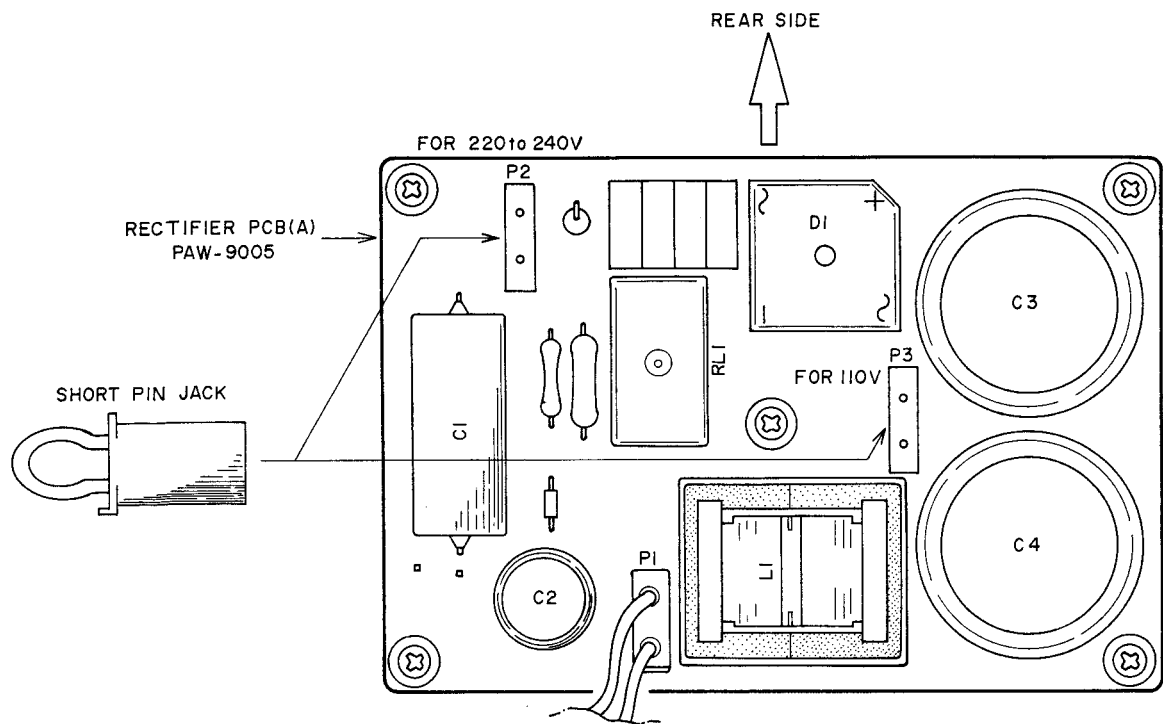

Fig. 4 Rectifier P.C Board (A) PAW-9005
1. U/T Model (Refer to Figs. 4,5)
- 3) Insert the short pin jack for each voltage area as shown in Fig. 4 and then plug in.